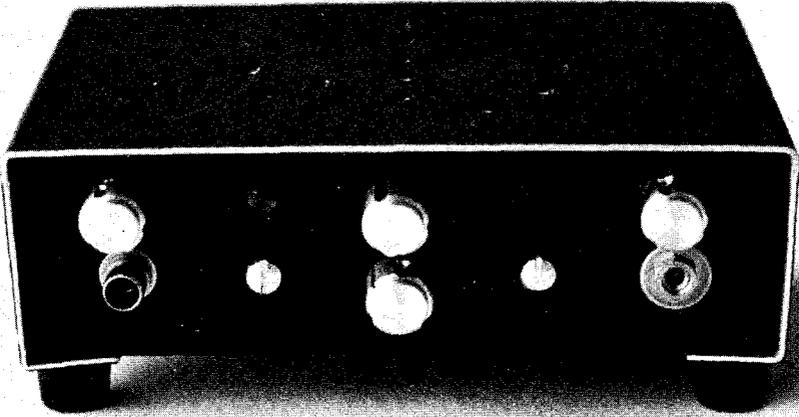
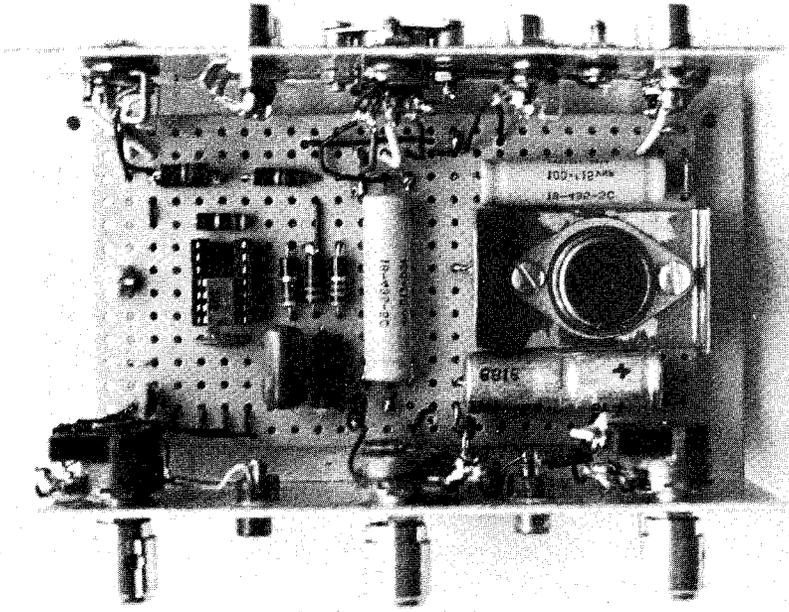
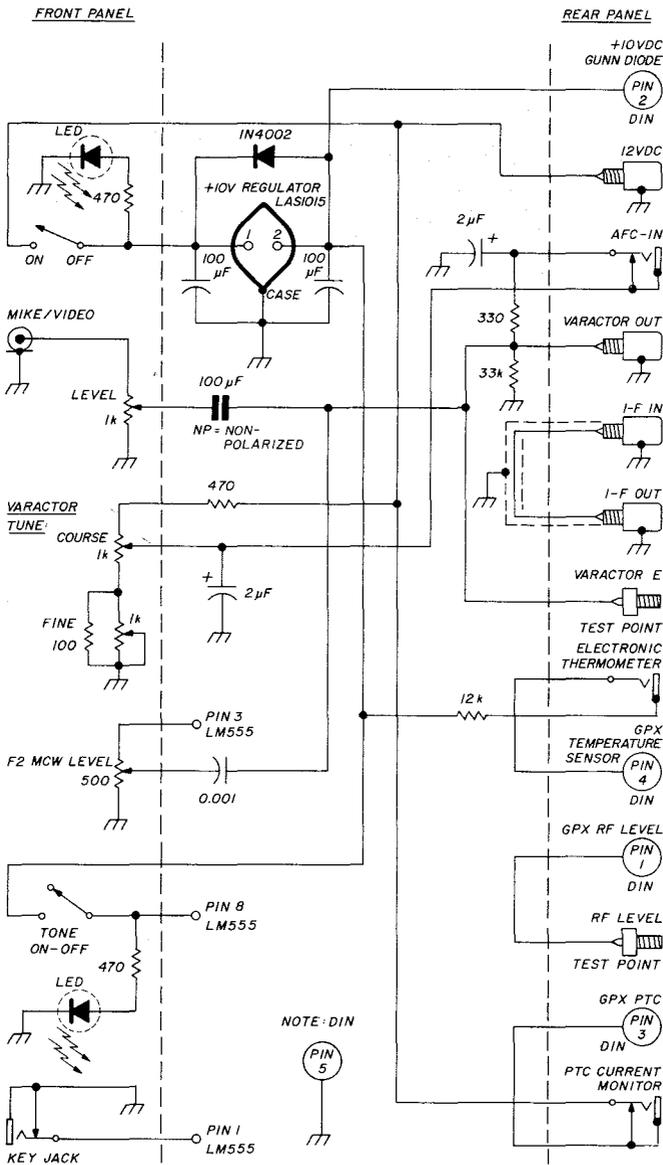

Figure 4-7.
Figure 4-8.
Figure 4-9.
Except for the enclosure, the Mark II system control module (*Figure 4-7*) is very similar. Front panel controls are, top row left to right: combination on-off switch and mike/video level, on-off LED, varactor voltage adjust (coarse), tone generator on-off LED, tone generator combination on-off switch and tone level; bottom row left to right: mike/video jack, varactor voltage adjust (fine), and the key jack. The parts layout on perf-board is shown in *Figure 4-8*. A Lambda LAS1510 10 Vdc, 1.5 ampere regulator is used for simplicity and is on the left side of the board mounted on a small shim-brass heatsink. It may be operated with any input voltage from +12 to +25 Vdc. The LM555 tone generator is on the right-hand side of the perf-board. A schematic is shown in *Figure 4-9*.
Front panel of the Mark II Gunnplexer system control module. Construction of this unit is shown in Figure 4-8.
After the COARSE adjustment, the FINE tuning control provides an approximately 10 to 1 step down vernier adjustment. The LM555 tone generator, omitted from *Figure 4-9* because of space, is identical to the one illustrated in *Figure 4-5*. The coupling capacitor from the combination microphone and video jack/level control has been increased to $10\ \mu\text{F}$ using a non-polarized (NP) electrolytic for better audio and video response; most polarized electrolytics should work just as well but place the positive terminal towards the varactor and use a 25 WVdc unit. Both the varactor voltage and the Gunnplexer rf level dipole/detector output are brought out to the rear panel through insulated test points. These two test points, though seldom used, save considerable troubleshooting time when all is not as it should be.
Layout and construction of the Mark II Gunnplexer system control module. Circuit diagram is shown in Figure 4-9.